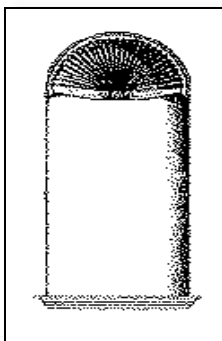

Figure 4
- Toenail or screw into horizontal brace. (figure 4)